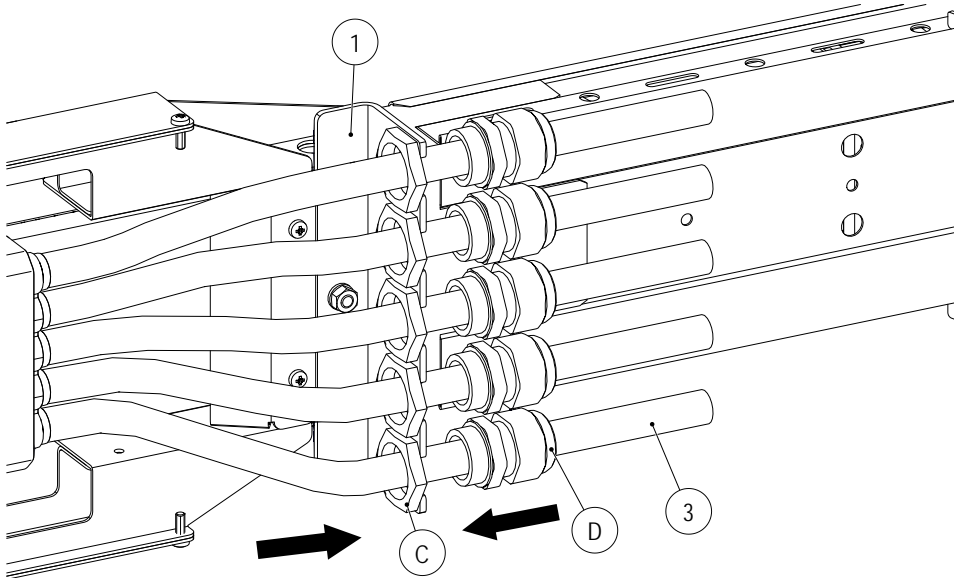

Fig. 76: Screw connecting cables (3) to strain relief plate (1)
6. Fasten the connecting cables (3) to the strain relief plate (1) using the screw connections (D) and their lock nuts (C) (see Fig. 76).